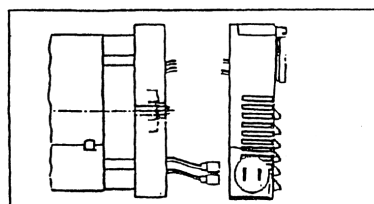

Fig.3
5. Connect the capacitor and the connectors (sockets version) as the wiring diagram (fig. 3)